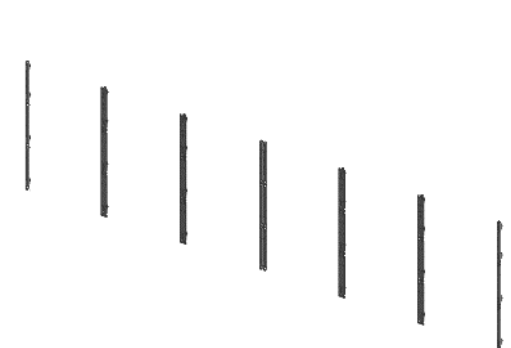

Fig8. (ex.) Installation of 6x3
- ⑨ Finally, Install ㉑ASSY BRACKET SIDE and ㉒ASSY BRACKET MIDDLE. [Fig.8]